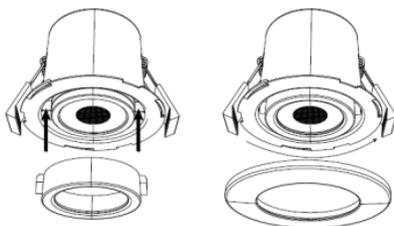

Fig. 5
- Add a bezel to the downlight. For the fixed version, align the two lugs on the bezel with the clasps on the downlight and rotate clockwise. For the tilted version, insert the inner bezel and align the clips of the outer bezel with the indents on the downlight and rotate anti-clockwise (see Fig.5)